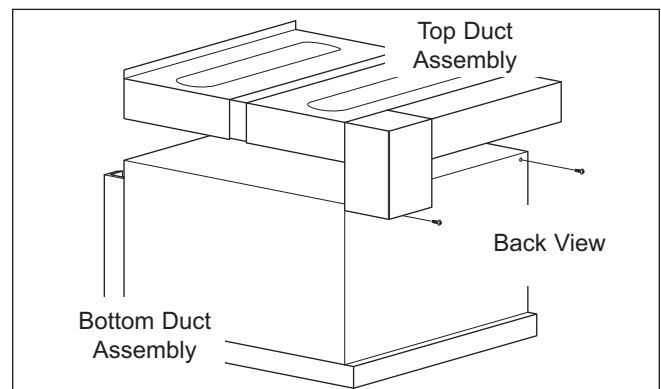

Figure 3. Attaching Top Duct to Microwave
3. Remove the existing screws from the upper right and left rear of the back of the microwave (See Figure 3).
4. Place the top duct assembly on the microwave. Reinsert screws removed earlier, through assembly into original screw holes (See Figure 3).